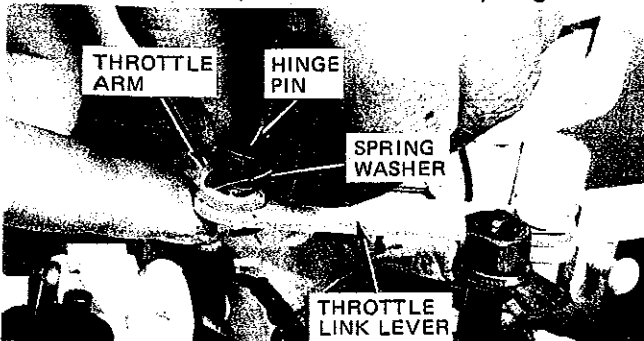

Figure 18
- (1) Remove retaining ring, spring washer and hinge pin from throttle link lever and engine throttle arm (Figure 18).